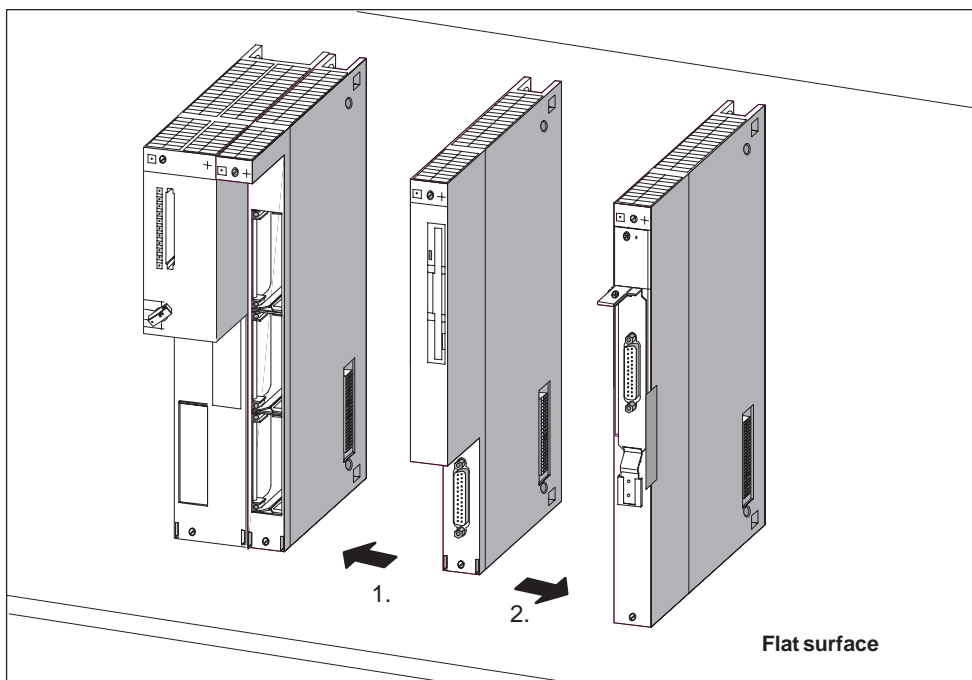

Figure 3-8 Pulling the Modules Apart, For Example to Replace the Mass Storage Module
10. Pull the adjoining modules carefully away from the module to be replaced. When doing so, hold the modules to be separated above the bus connectors and pull them apart at the module sides, so that the ISA bus-connection is disconnected (Figure 3-8).